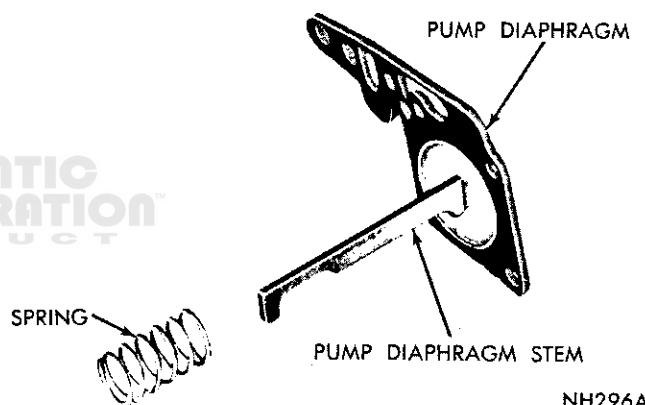

Fig. 8—Pump Diaphragm and Spring
- (10) Tilt pump lever on its pivot until hook on pump diaphragm stem can be released. Slide pump diaphragm and spring out of fuel bowl. (Fig. 8).
- (1) Loosen choke valve attaching screws slightly.
- (2) Hold valve closed, with fingers pressing on high side of valve. Tap valve lightly with a screwdriver to seat in air horn. Tighten attaching screws securely and stake by squeezing with pliers.
- (3) Test choke valve for binding by rotating lever through extent of its full travel.
- (4) Install fast idle and curb idle speed screws and springs in throttle lever.
- (5) Engage pump link hook with throttle lever, then install in pump lever and secure with clip. When installing link, be sure link is in center hole of throttle lever.
- (6) Slide pump spring (Fig. 8), over pump diaphragm stem. Install assembly in position in fuel bowl and at same time, engage hook on diaphragm stem with recess in pump lever.